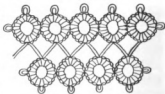

FIGURE 63
*Double Rings* (Figure 63). — Take the tatting position. Tat one single ring and skip the distance of the diameter of one ring and make four stitches. Attach to the last loop of the first ring